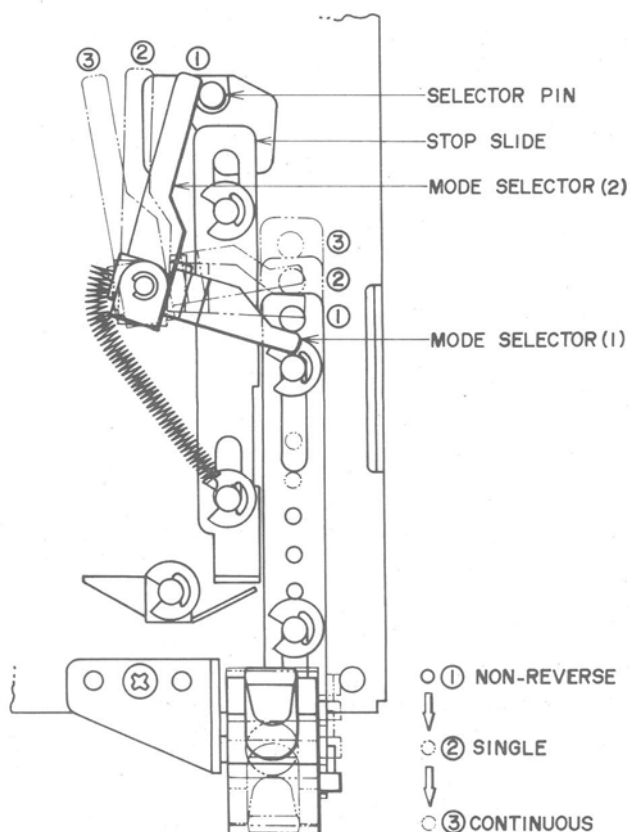
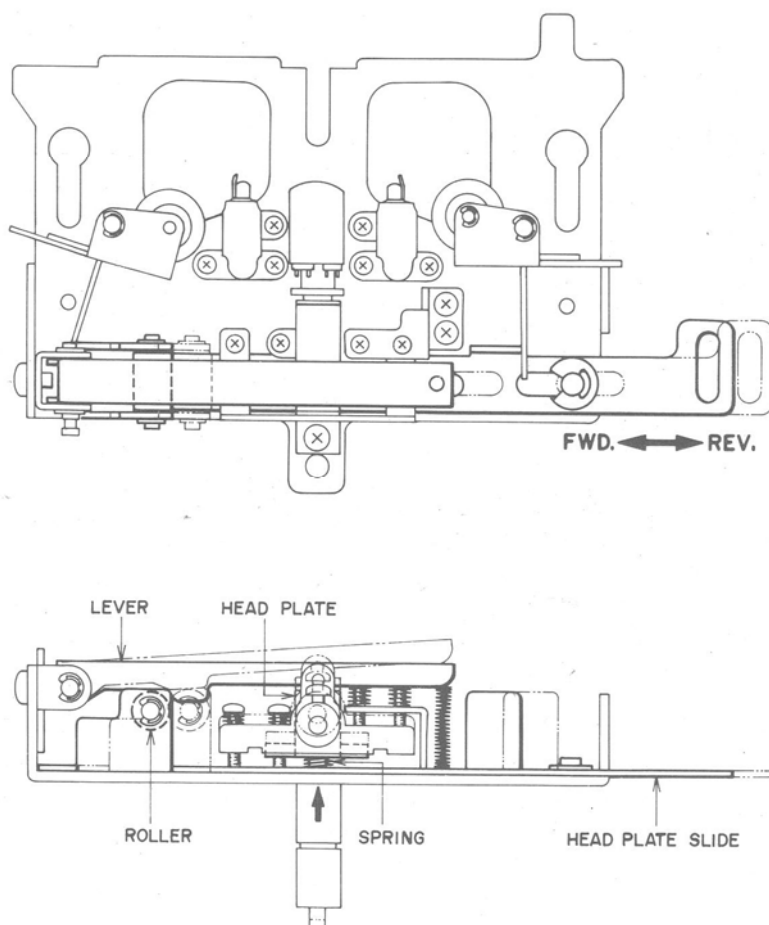

Fig. 37
Fig. 38
- b) The reverse slide operates switch slides (1), (2), and (3), the switch operates the head plate slide, and the head is raised, (Refer to Fig. 38) thus effecting REV mode.
NOTE: For Reverse Selector operation in Item 1) through 4), refer to Fig. 37 and for head raising and lowering mechanism function, refer to Fig. 38.